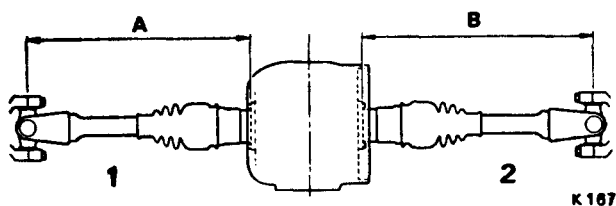

FIG. J18 FINAL DRIVE POSITION CHECK
4. Measure from the face of the hub yoke, on which the universal joint bearing cap fits, to the face of the final drive side housing on each side of the car (see Fig. J18).